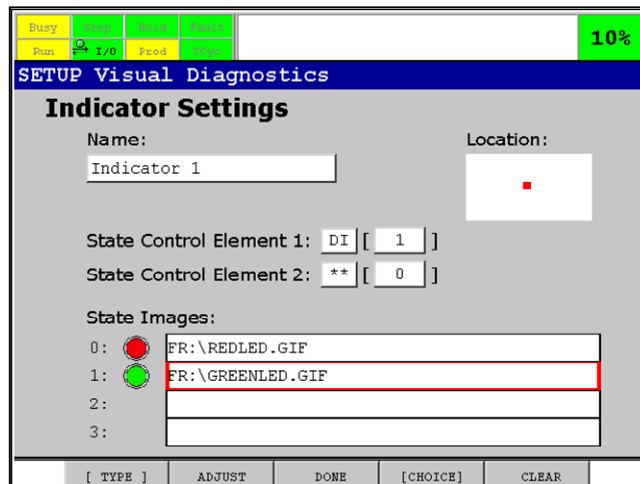

Fig. 51.1 (g) Indicator Settings
- b. Use the file thumbnail browser to select the image. See Fig. 51.1 (g) for an example. Fig. 51.1 (g) shows the associated images to states 0 and 1.